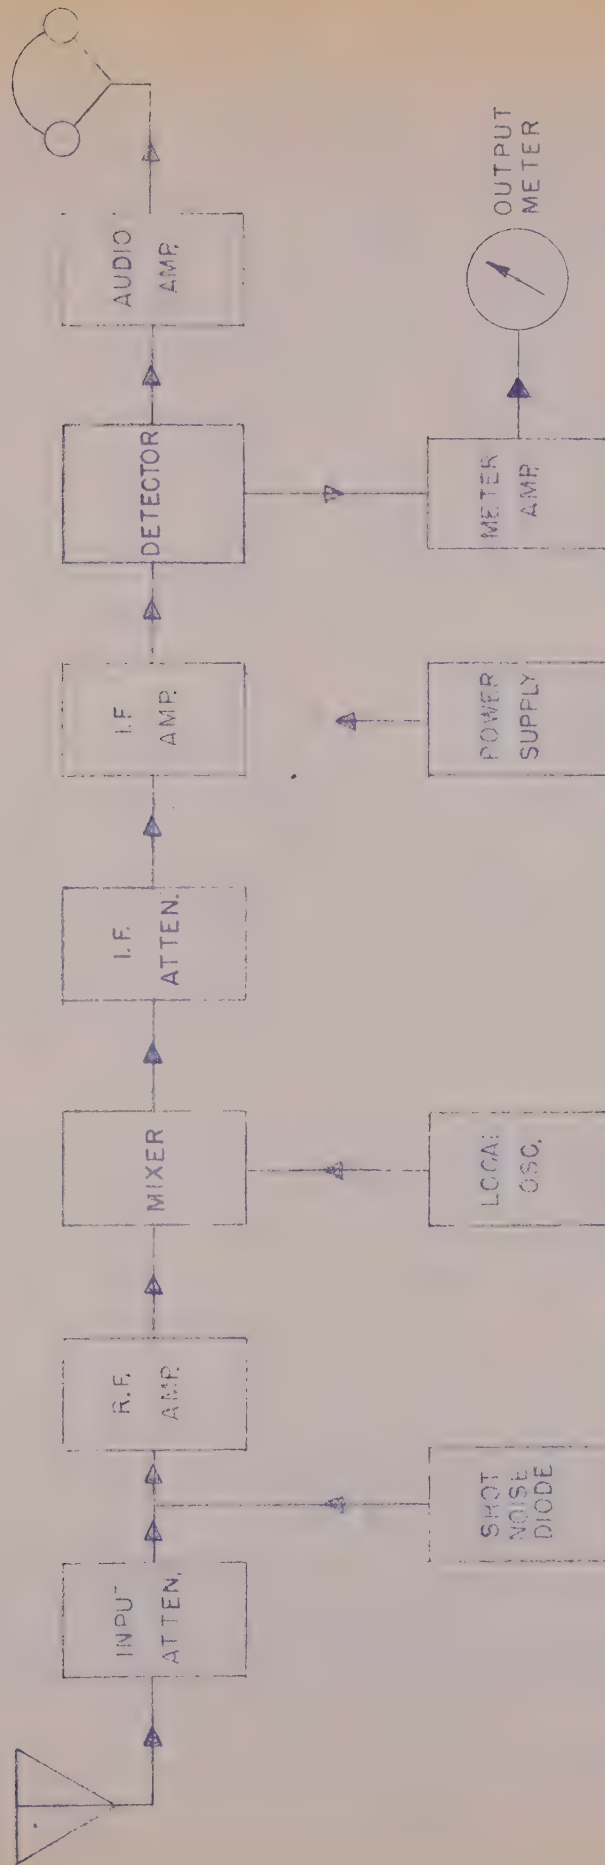

Figure 5. - Block Diagram Of Model 58-AS.
a. A block diagram of the Model 58-AS is shown in Figure 5. The Model 58-AS receiver is a laboratory type superheterodyne designed for reception in the range from 15 to 150 megacycles. The receiver provides a balanced input attenuator, a shot-noise calibrator or standard signal level source, and a special output stage from which the signal strength is indicated on a one-milliamperemeter calibrated in microvolts r.m.s. The output circuit also permits monitoring of the signal with headphones, an oscilloscope, and/or a graphic recorder. The characteristics of the receiver are given in Paragraph 3.